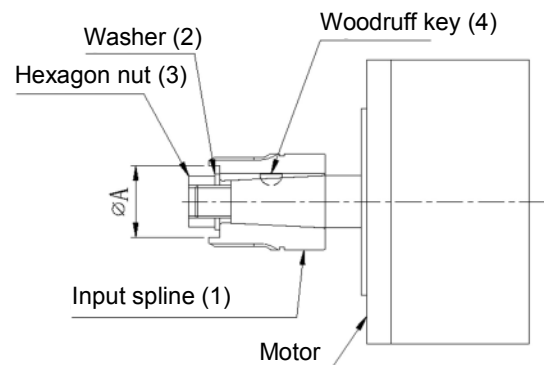

Fig. 5-8
**Step 1** • Attach the Woodruff key (4) to the motor shaft.
**Step 2** • Attach the input spline (1) to the motor shaft.
**Step 3** • Place the washer (2) into the motor shaft, and then tighten the hexagon nut (3).
- Using a thread-locking sealant for the screws, lock the hexagon nut (3).
- For the shape shown in Fig. 5-8, use the washer (2) and hexagon nut (3) with outer diameters of  $\phi A$  or smaller. (For  $\phi A$ , refer to the separately provided “Outer dimensions” drawings and specification sheet.)